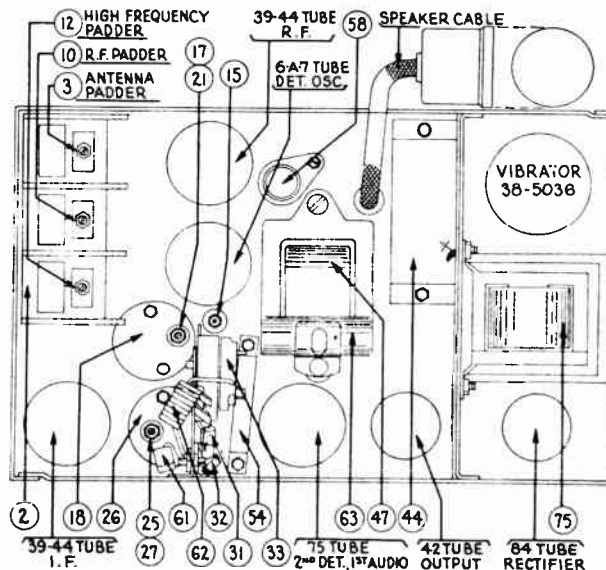

FIG. 2
Set up the signal generator and adjust it to exactly 260 K. C. Connect the generator lead to the grid cap of the 6A7 tube. (See Fig. 2.) The output meter must be connected by means of an adapter to the small prong of the speaker plug and to the chassis.
The padders ③ and ⑩ must be adjusted first. These padders should be adjusted to peak. (Figs. 2 and 3.) First adjust the screw, then the nut.
The padders ⑫ and ⑬ must be adjusted next. (Figs. 2 and 3.) Turn the adjusting screw ⑬ all the way in. A metal screwdriver can be used for this. Then, with generator attenuator set so there is approximately half-scale reading, adjust the nut ⑫ with a fibre wrench for the maximum reading on the output meter.
There are four holes in line, one in each of the sections of the tuning condenser housing. (See Fig. 2.) Place a nail of the size that fits snugly through the holes and then turn the condenser plates out of mesh until they strike against the nail.